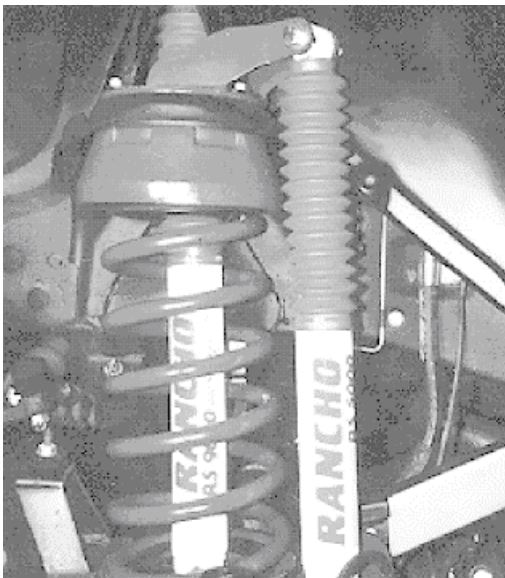

fig. 11
23. Place the 1531 spring spacer (or 1530 spring spacer if you are installing either 2" System) into the spring pocket on the frame and align the holes with each other. Then loosely bolt together using the 7/16" x 1 3/4" bolts from bag # 860042; **DO NOT TORQUE AT THIS TIME. Refer to fig. 11.**
36. Attach the dual shocks to the mounting brackets with the 1/2" hardware from bag # 860043. **Refer to fig. 11.** Use four SAE washers per bolt assembly, two between the shock (one on each side) and mounting bracket. Tighten the nuts and bolts to 100 ft. lbs.